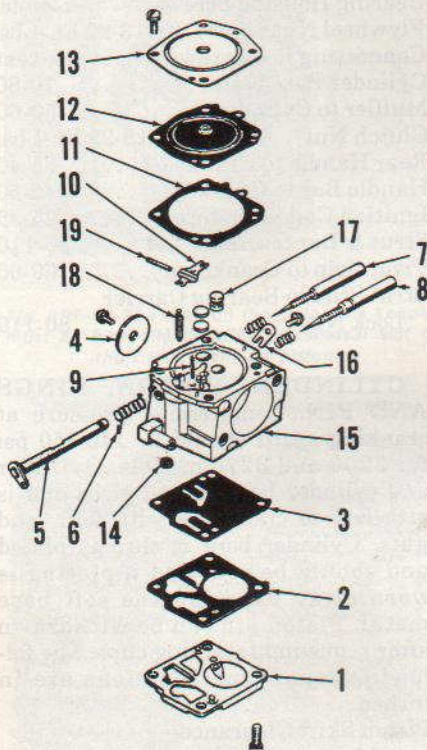

Fig. PR5-1—Exploded view of Tillotson HS carburetor.
**CARBURETOR.** Tillotson HS carburetors are used on all models. Saw model 1410 was originally equipped with HS-16B carburetor. The initial setting for both high speed and idle mixture adjusting needles (7 & 8—Fig. PR5-1) is 1¼ turn open from lightly seated. Adjust both mixture adjustment needles to provide smoothest running when operating under normal conditions.